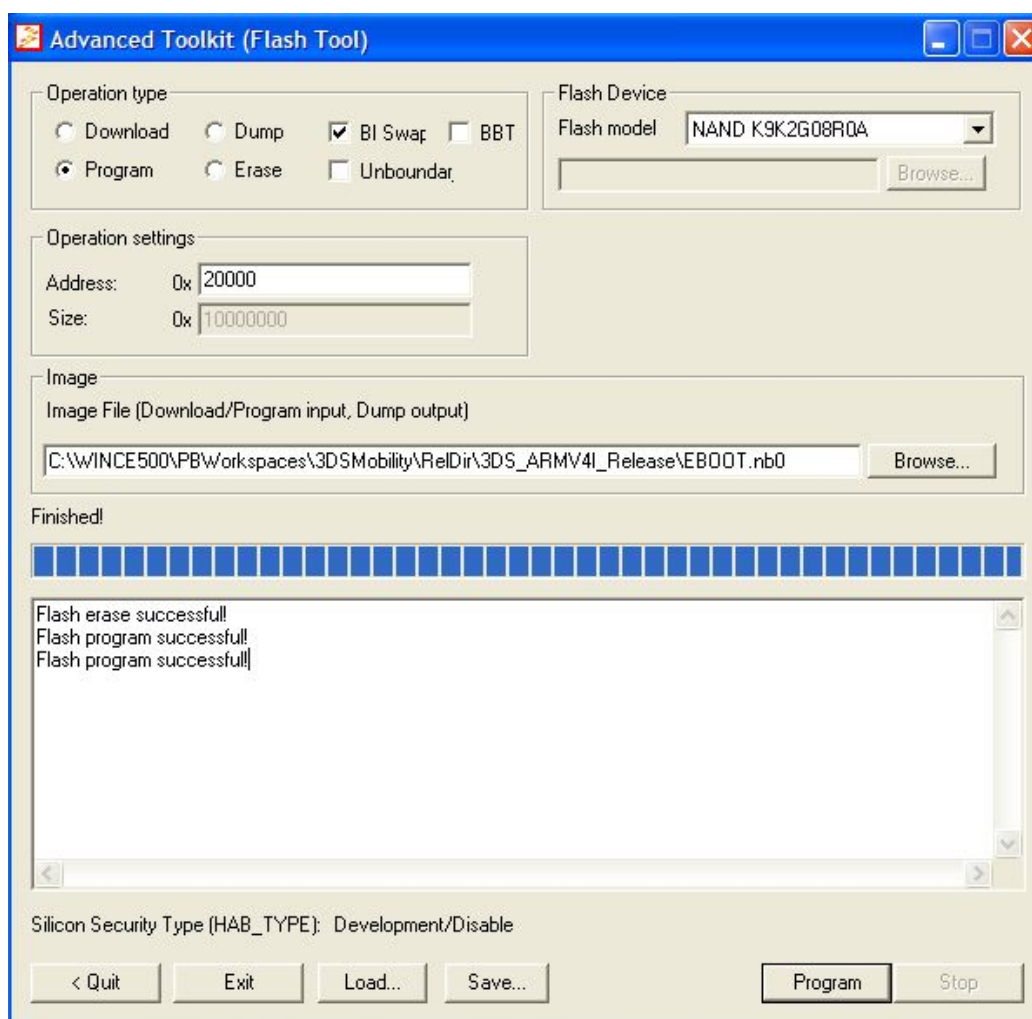

Figure 5-5 EBOOT.nb0 Programming
2. Select the options shown in Figure 5-5, and then click **Program** to write EBOOT to the board.